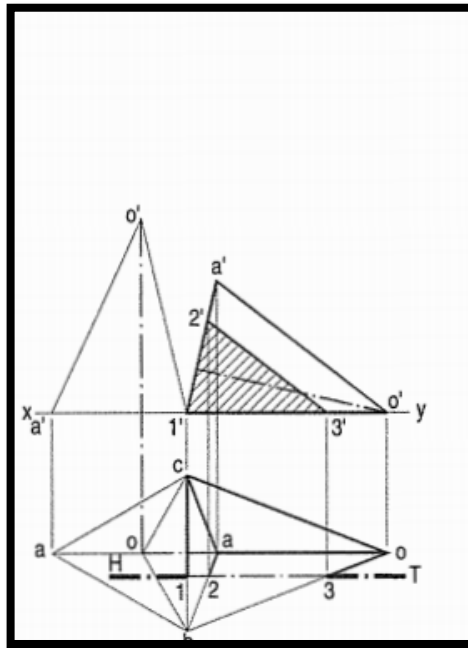

Figure:1
2. Project points 1, 2 and 3 (at which the edges are cut) on corresponding edges in the front view and join them. Figure 1' 2' 3' shows the true shape of the section.